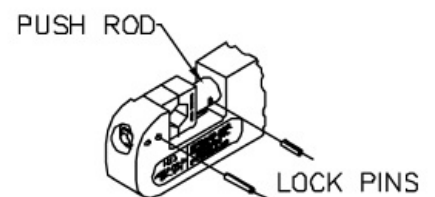

FIG. 4
CAUTION: BEFORE ATTEMPTING TO REMOVE DIES FROM TOOL, ASSURE THAT ALL LOCK PINS HAVE BEEN REMOVED (SEE FIGURE 4). FAILURE TO DO SO MAY RESULT IN SERIOUS DAMAGE TO THE TOOL.
2. Drive lock pins, supplied with dies, through holes and flush with outside surfaces. Long pin through tool body and short pin through push rod. (see Figure 4)